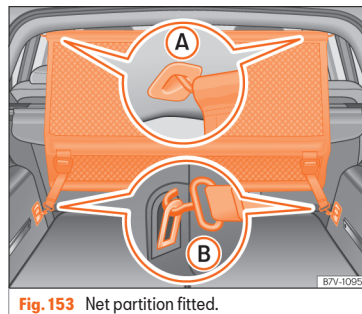

Fig. 153 Net partition fitted.
- Secure the net partition in the left housing of the roof » **Fig. 153 A**. Make sure to move the cross rod down beyond the upper position.
- Hook in the net partition on the rear right-hand side roof housing by pressing on the rod »» Fig. 153 (A).
- Secure two hooks of the partition net to the fastening rings of the boot »» Fig. 153 (B) and tighten the straps firmly.
- Release the net hooks from the fastening rings »» Fig. 153 (B).
- Unhook the net partition on the right-hand side roof support »» Fig. 153 (A) by pressing on the rod.